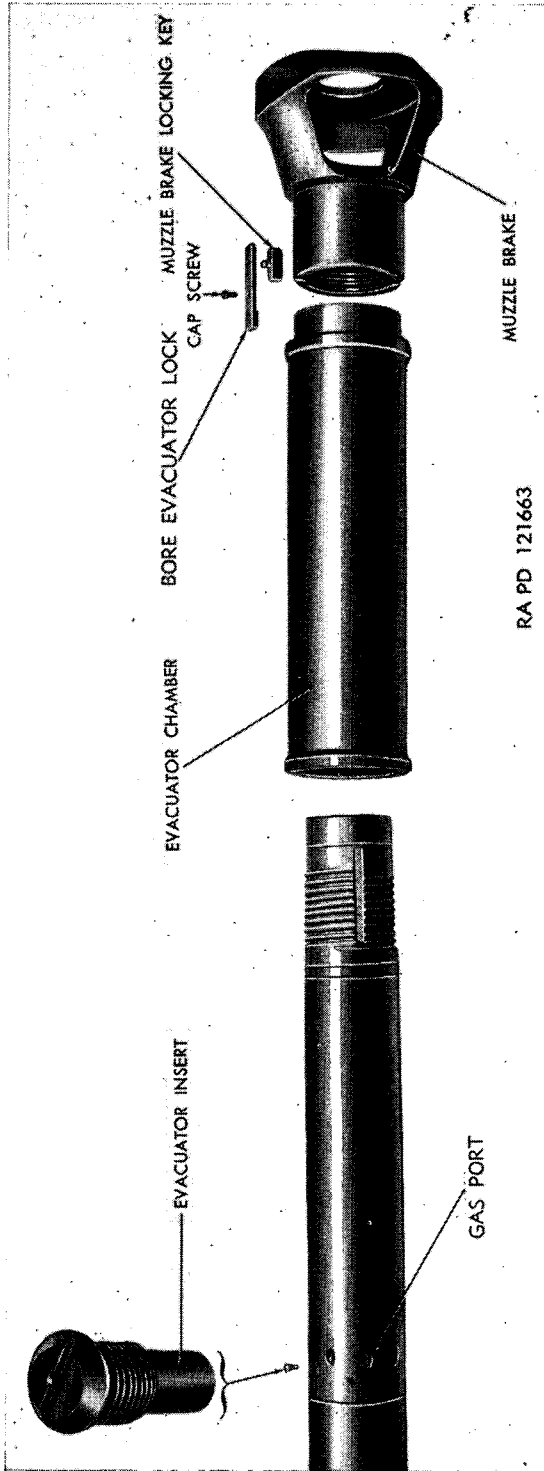

Figure 339. Evacuator chamber—exploded view.
- (4) If it is necessary to replace the inserts (fig. 339), they may be unscrewed from their tapped holes in the tube.
- (1) Remove the muzzle brake and evacuator (par. 338).
- (2) Clean the gas ports in the gun tube (fig. 339). If any of the evacuator inserts have been removed from the gun tube, screw them into their tapped holes to the rear of the muzzle threads on the tube (fig. 339). Normal maintenance does not require removal of these inserts.
- (3) Install evacuator and muzzle brake (par. 340).
- (1) If the evacuator inserts have been removed from the tube, insert them, slotted end outward, into the tapped holes to the rear of the muzzle threads on the tube, and screw them in to a firm seat (fig. 339).
- (3) Screw the muzzle brake rearward onto the muzzle until the muzzle face of the tube is flush with the adjacent rear wall of of the muzzle brake chamber (fig. 339). Then rotate the brake sufficiently to the right or left to aline its keyslot with the nearest keyway in the tube.
- (4) Insert and seat the key to retain the brake in position and screw the evacuator forward with spanner wrench 7237270 firmly against the muzzle brake.